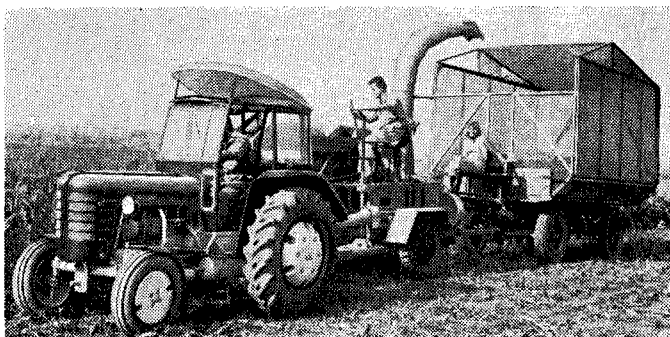

Fig. 15
1. P. T. O. shaft (standardized revolutions). This drive is very convenient for a reaper-and-binder, sprinkler, beet gathering combine, potato digger, flax puller, manure spreader, rotators, ensilage combine (Fig. 15) etc.